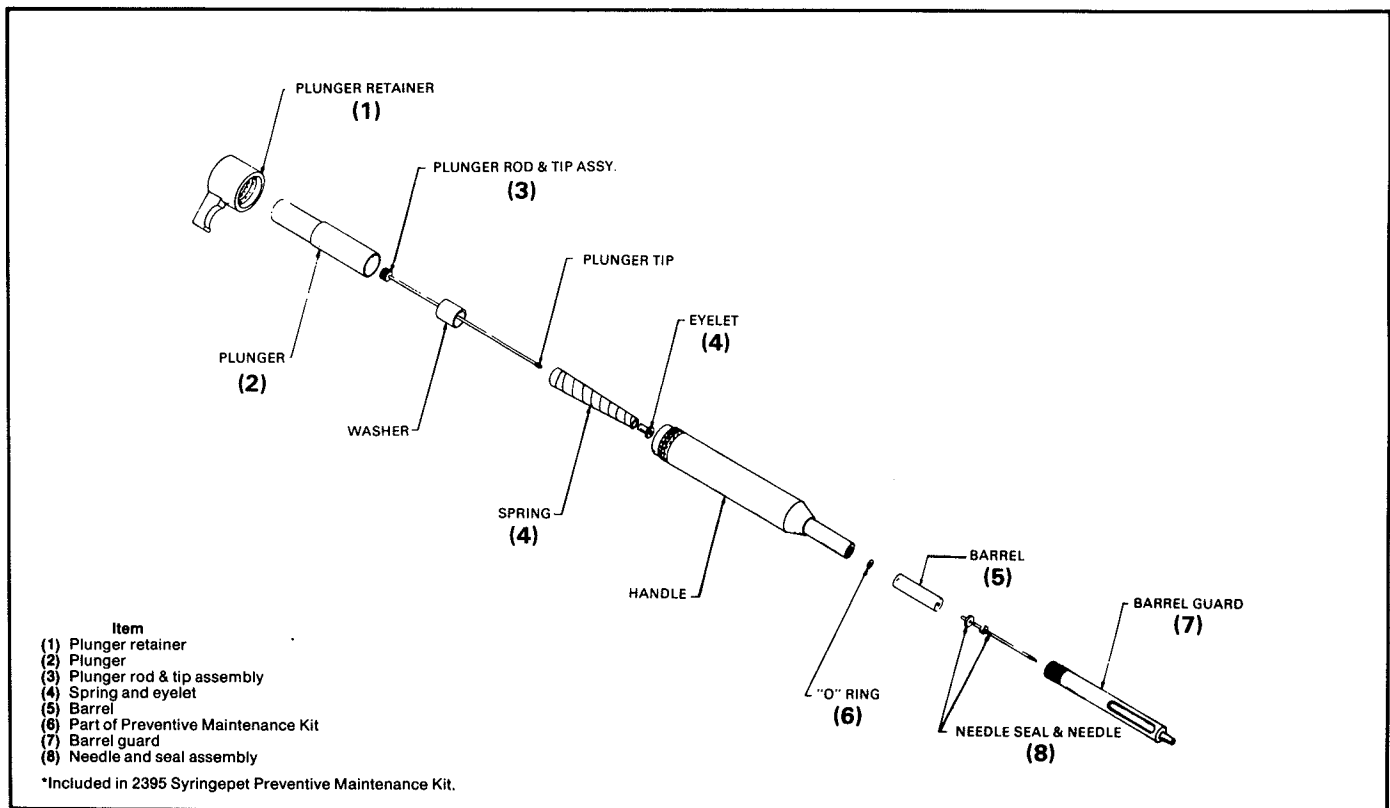

Figure 14. Exploded view of the Syringejet.
1. Replace the Syringejet plunger rod and tip assembly. (See Figure 14.)